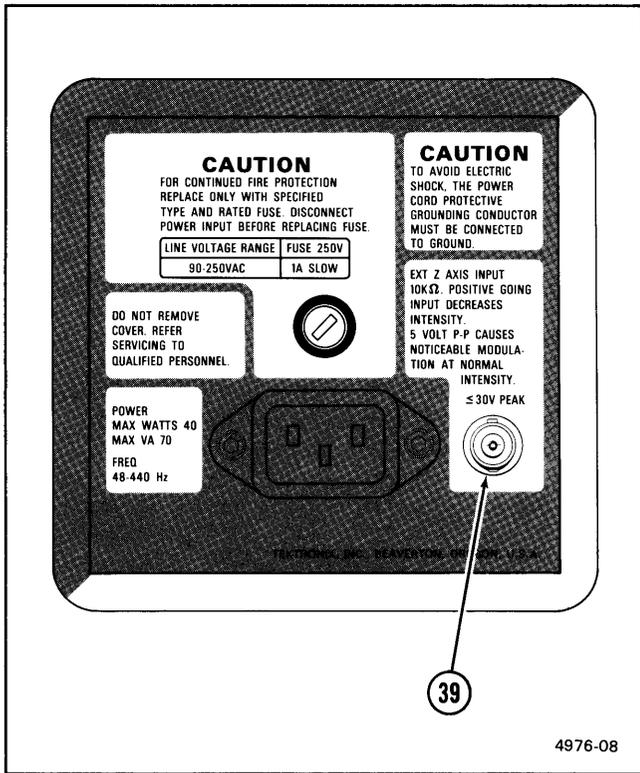

Figure 2-7. Rear-panel connector.
Refer to Figure 2-7 for location of item 39.
③⑨ **EXT Z-AXIS Connector**—Provides a means of connecting external signals to the Z-Axis amplifier to intensity modulate the crt. Applied signals do not affect display waveshape. Signals with fast rise times and fall times provide the most abrupt intensity change, and a 5 V p-p signal will produce noticeable modulation. The Z-Axis signals must be time-related to the display to obtain a stable presentation on the crt.